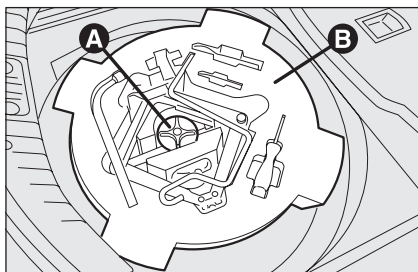

fig. 4
- ☐ for versions equipped with space-saver spare wheel, loosen the locking device **A-fig. 4**, take out the tool container **B**, and take it near the wheel to be changed then take the space-saver spare wheel;